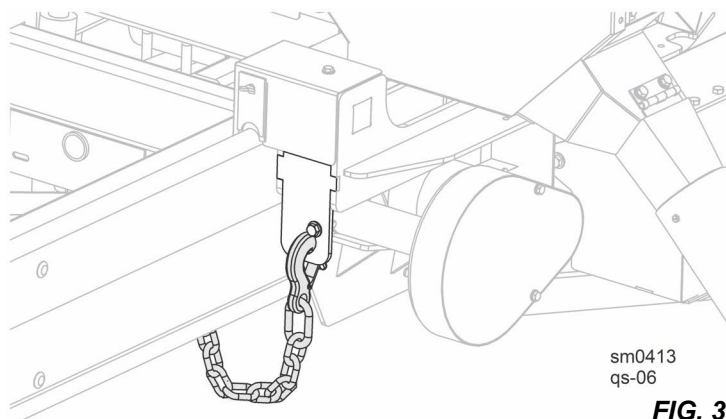

FIG. 3-1
3. Unhook the carriage safety chain, located at the bottom of the vertical mast, near the battery box. See FIG. 3-1.